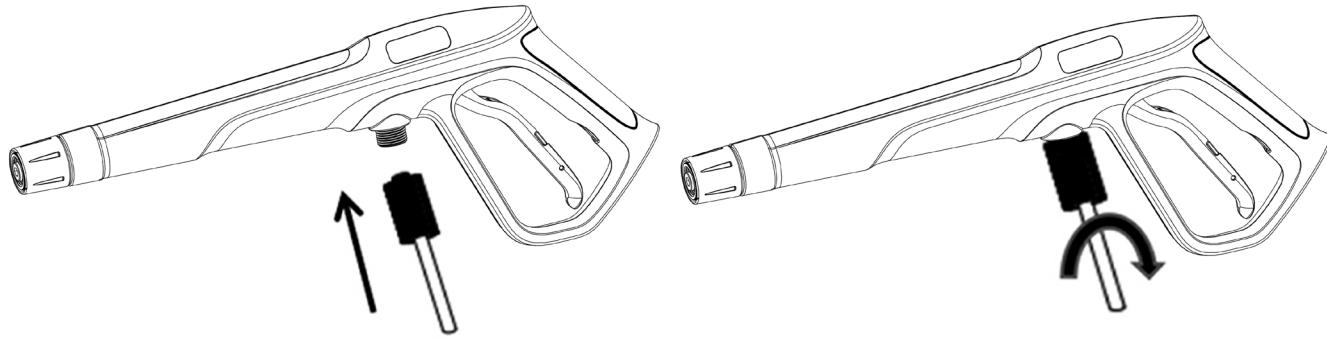

Figure 1&2: Pressure Hose Connect
2. Fixing the matching end of the hose firmly into the gun handle. See figure 1 and 2. Tighten the connector by hand only. Loosen the high pressure hose to avoid twist.